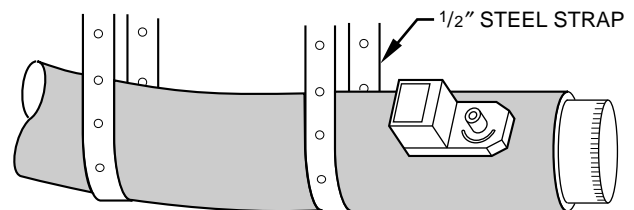

Fig. 6—Insulated Round Flexible Duct Work A95133
4. Insulate damper using 1-1/2 in. to 2-in. insulation. (Check your local codes.) (See Fig. 6.)